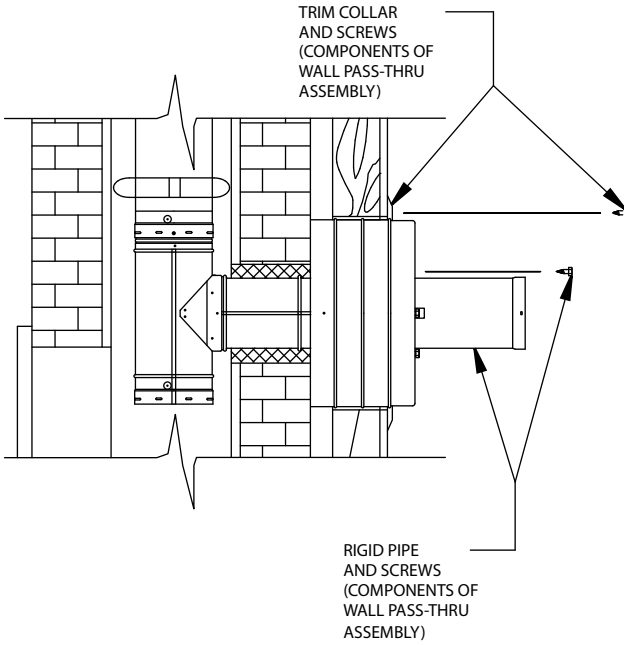

Figure 45
Step 10: Attach the 10" long Rigid Pipe Section to the front to the Insulated Wall thimble with four sheet screws through the L-brackets. Refer to Figures 45 and 46 of this addendum.